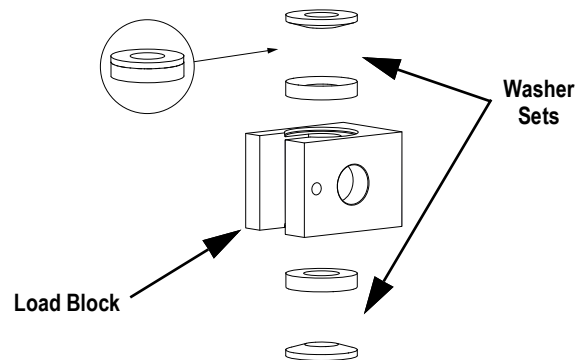

Figure 7-4. Load Block and Spherical Washer Sets
- Washer sets are fit together with concave and convex sides facing each other (see Figure 7-4)
- Washer sets should be oriented with the back of the concave washer facing the load block (see Figure 7-4)